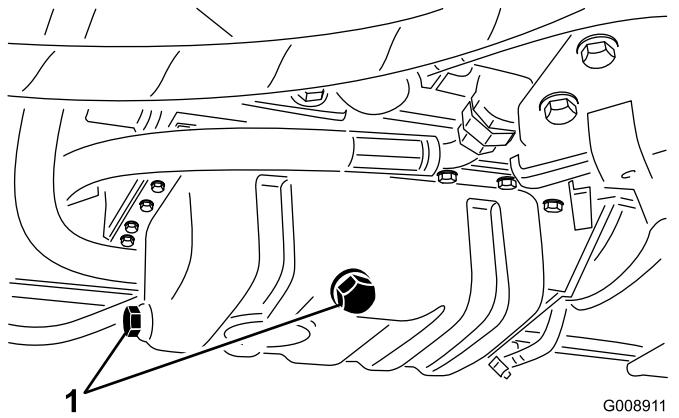

Figure 47
1. Remove either drain plug (Figure 47) and let oil flow into a drain pan. When the oil stops flowing, install the drain plug.